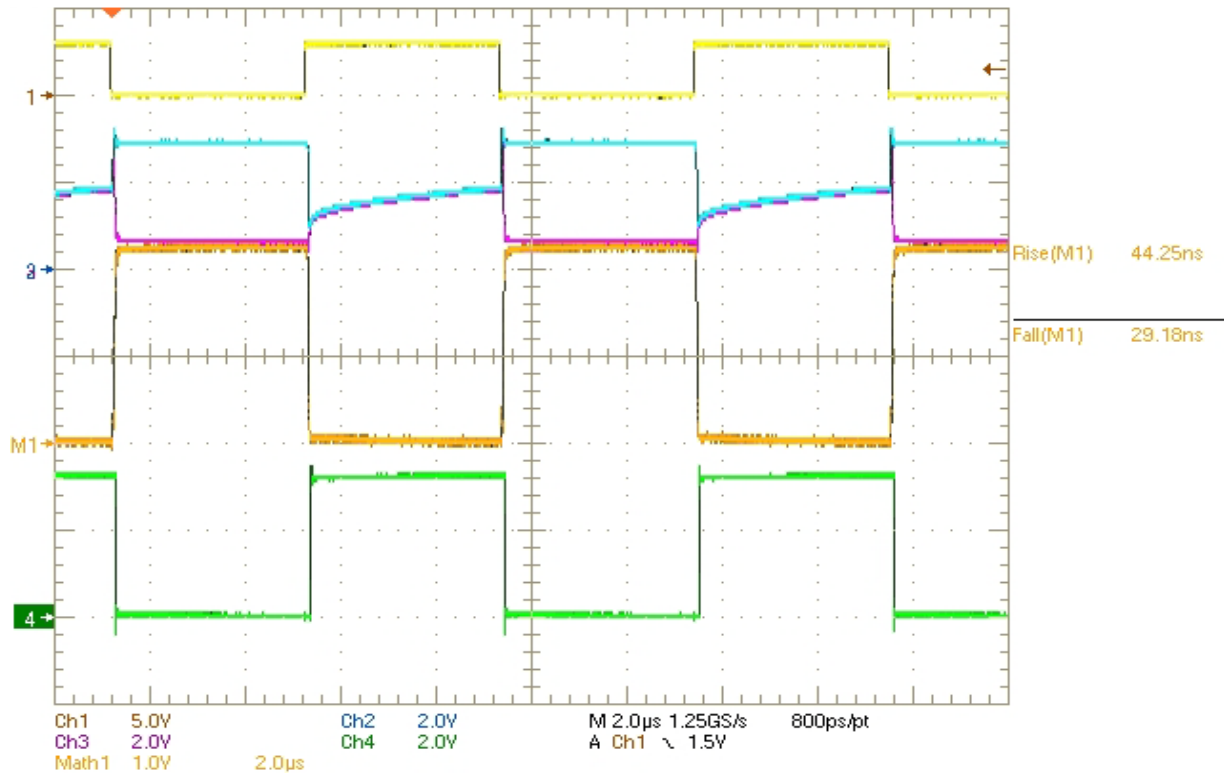
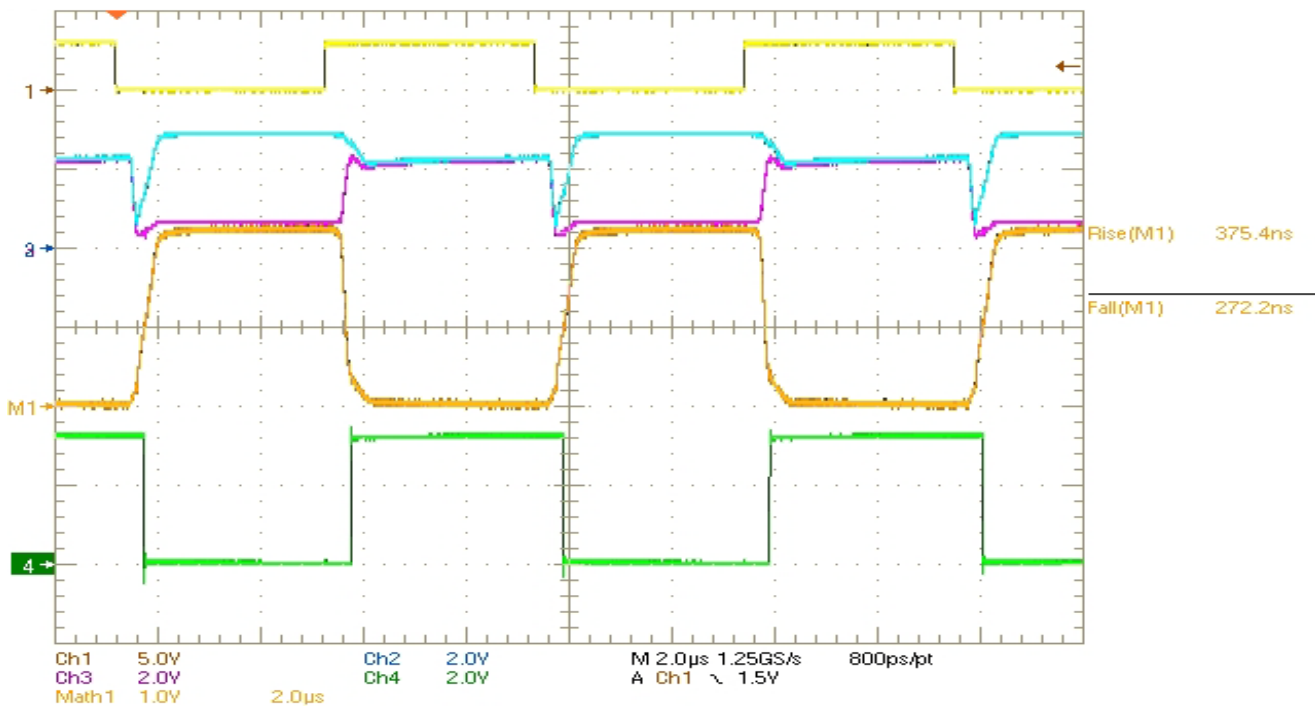
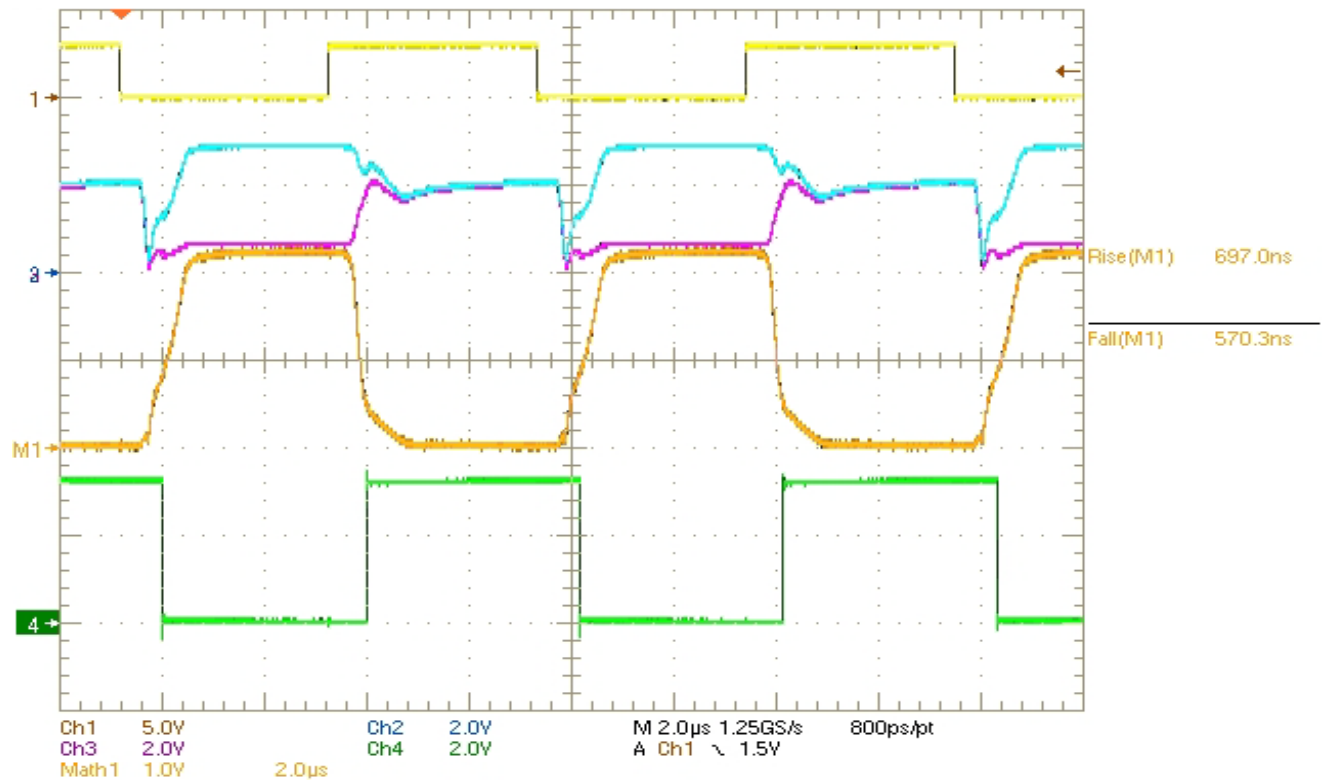

Figure 4.1 Oscilloscope Plot (Fast Speed) Waveforms and Measurements
Figure 4.2 Oscilloscope Plot (Medium Speed) Waveforms and Measurements
Figure 4.3 Oscilloscope Plot (Slow Speed) Waveforms and Measurements
- (5) Use the “Measure” menu on the oscilloscope to set up the following four measurements:
- (6) Ensure that a jumper is installed at J8 (selects fast driver edges by connecting the RS pin to ground) and no jumpers are installed at J5, J6, J7, and J9.
- (7) Enable the function generator. The scope plots should look like the ones shown in Figure 4.1 on page 9.
- (8) In fast speed mode ( $RS = 0V$ ):
- (9) Move the jumper from J8 to J7 (selects medium driver edges by connecting the RS pin to ground through a 10k $\Omega$  resistor). Note: No jumpers should be installed at J5, J6, J8, and J9.
- (10) The scope plot should look like the ones in Figure 4.2 on page 9.
- (11) In medium speed mode ( $RS = 10k\Omega$ ):
- (12) Move the jumper from J7 to J6 (selects slow driver edges by connecting the RS pin to ground through a 50k $\Omega$  resistor). Note: No jumpers should be installed at J5, J7, J8, and J9.
- (13) The scope plot should look like the ones in Figure 4.3 on page 10.
- (14) In slow speed mode ( $RS = 50k\Omega$ ):